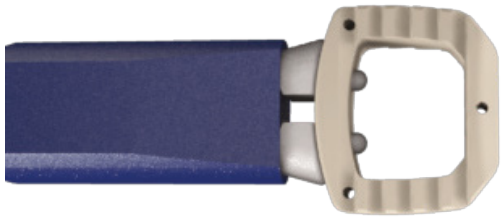

Figure 1
A. Interface the fork tips with the holes of the implant and begin rotating the knob in a clockwise direction until the implant is securely fastened (See Figure 1).